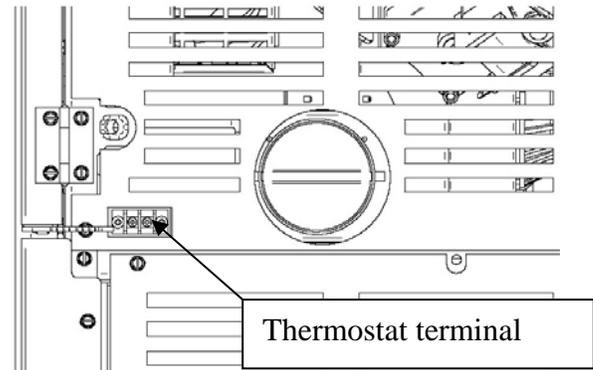

Figure 40
- Connect two thermostat wires to the terminal block located on the lower right side of the back of the stove. To do so, loosen the two screws and insert the wires in the terminals. Tighten the two screws. (See Figure 40)